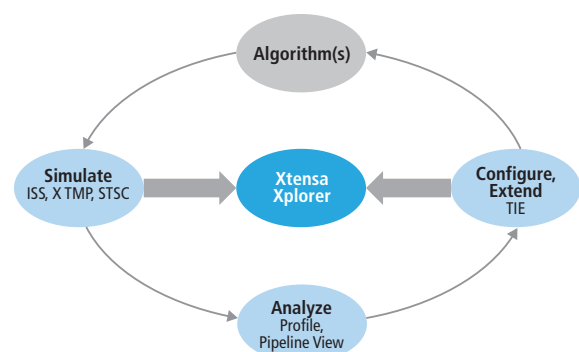

Figure 1: Tensilica's Eclipse-based Xtensa Xplorer IDE serves as the cockpit for custom processor development.
- Xtensa Xplorer™ Integrated Development Environment (IDE) (Figure 1) with full graphical user interface (GUI)